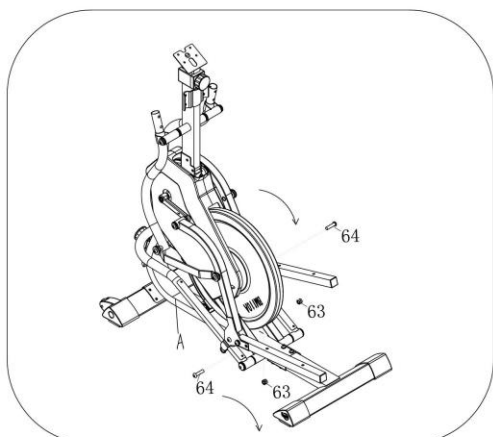

Figure 5
Rotate the Pedal Tube branch downward, use wrench (104), Lock the Pedal Tube onto the Pedal Frame by 2pcs Bolt (64),and 2pcs Nut (63).as shown in Figure 5.